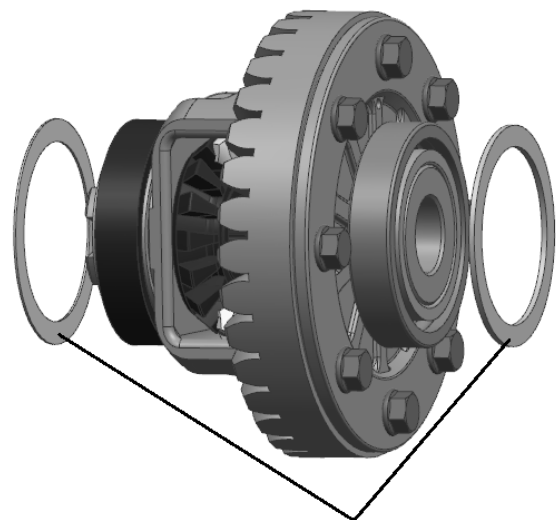

**Fig 6**
7.Remove the shims from the differential assembly. Be sure to keep the shims together for reassembly. →Fig 6